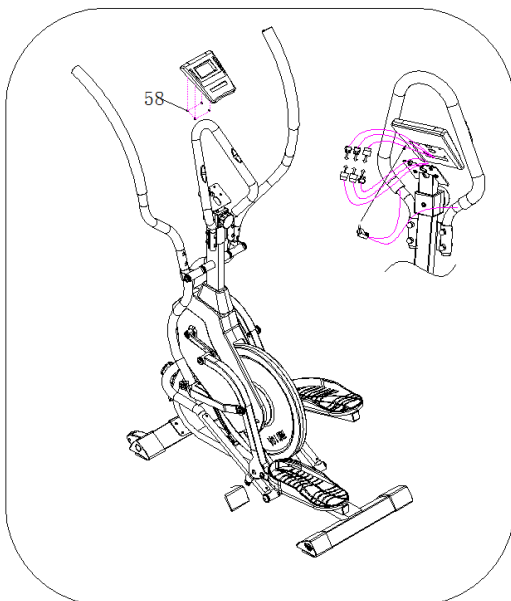

Figure 9
Use wrench (93), lock the Computer(90) onto the Middle Upright Tube by 4pcs Bolt (58), Insert the pulse into the Computer(90), as shown in Figure 9.